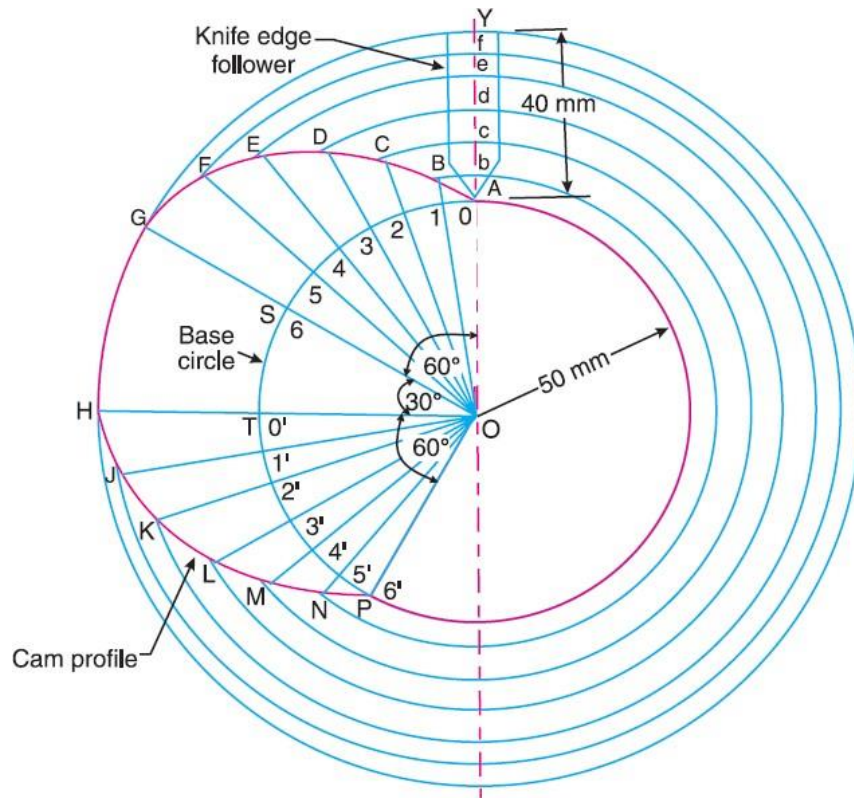

Figure 2
2. Since the axis of the follower passes through the axis of the cam shaft, therefore mark trace point A , as shown in Figure 2.